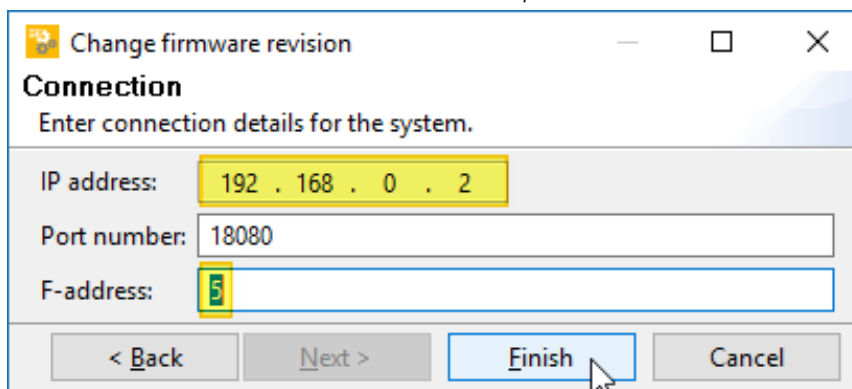

Figure 49: PASconfig – PDP67 device » Function “Change device” (Part 3, F-address)
- ▶ For this communication connection to the device, three parameters are required, as shown in the Figure 49: PASconfig – PDP67 device » Function “Change device” \(Part 3, F-address\) [36]: